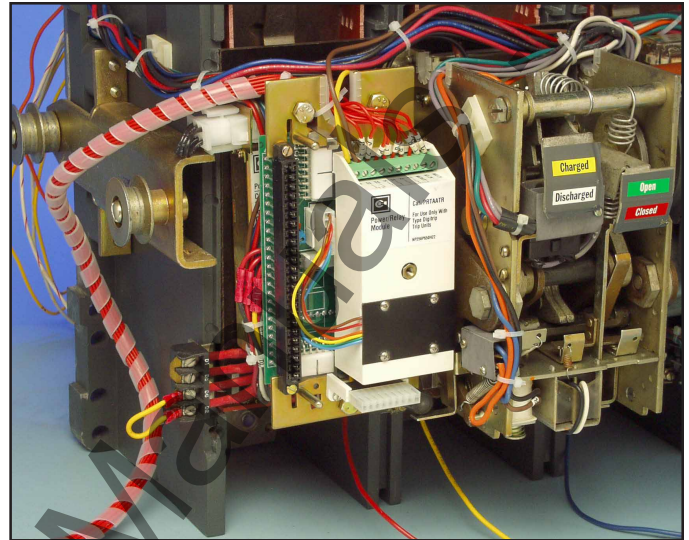

Fig. 22 Overview: Trip Unit Mounting Module Installed on the Breaker
- D. For All Large Frame SPB Breakers and Small Frame Breakers Not Equipped with a Ground Fault Transformer: Route the PT Wires, as shown in Figure 22, through the existing holes in the insulation plates then down towards the corresponding Phase CTs. The PT Wires will be connected in the following manner: Red to the "A" Phase CT; Yellow to the "B" Phase CT; and Blue to the "C" Phase CT.